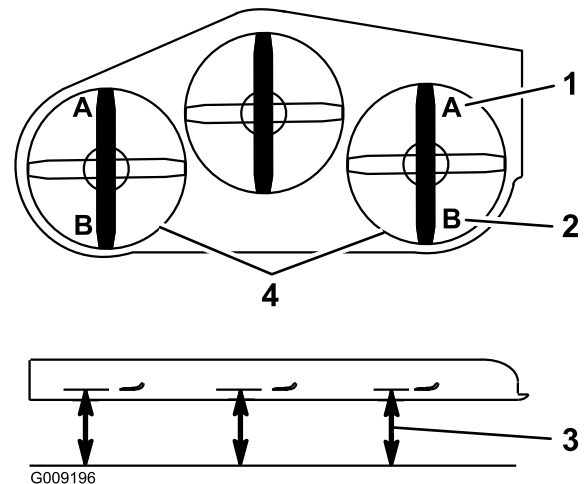

Figure 88
9. On both sides of the deck, measure from the level surface to the front tip of the blade (Position A). The measurement should read 3 inches (7.6 mm) (Figure 88).
15. On both sides of the deck, measure from the level surface to the back tip of the blade (Position B). The measurement should read 3 1/4 inches (8.3 cm) (Figure 88).